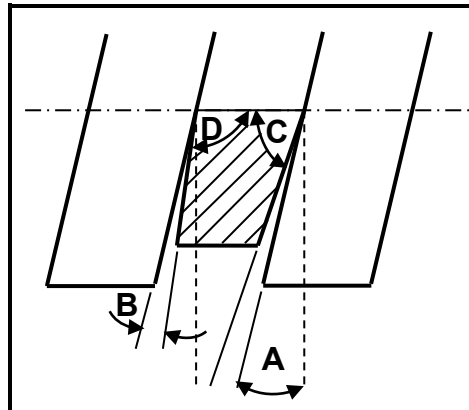

FIGURE 10.3
- 10.3 FIGURE 10.3 below shows a left-hand square screw thread cutting tool. Label angles **A–D**.